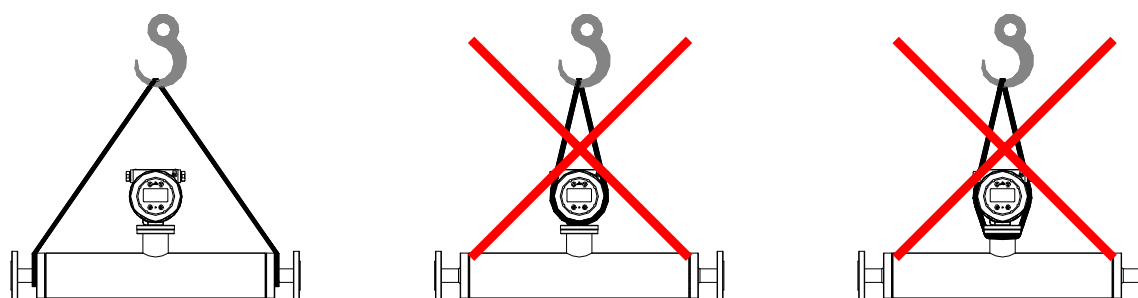

Figure3.8 Flowmeter lifting
- Use a mesh soft rope to wrap around the process connection at both ends. Do not wrap the rope around the transmitter shell or the shell of the cable connecting chamber. Do not use a chain to avoid damage to the shell. (Figure 3.8)